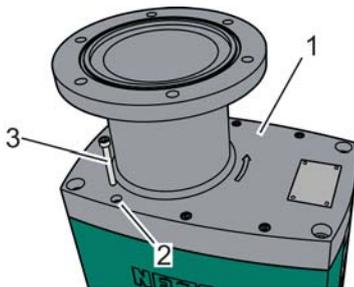

Fig. 146: Attaching the gear cover
32. ➤ Screw the attachment bolts (Fig. 146/3) into the boreholes (Fig. 146/2) of the gear cover (Fig. 146/1) by hand.
33. ➤ Tighten the attachment bolts (Fig. 146/3) crosswise with the prescribed torque (↪ *Appendix "Screw tightening torques" on page 131*).